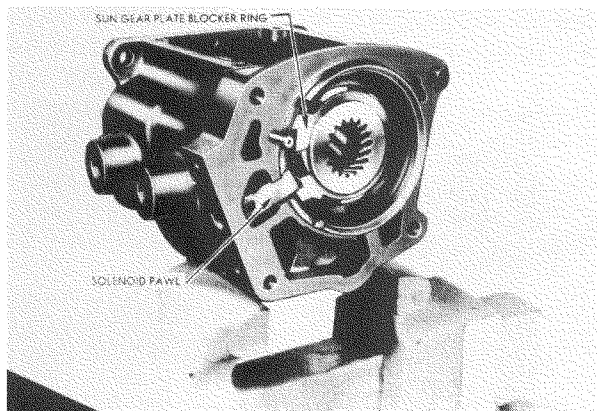

Figure 21.
a. If the overdrive engages with a severe jolt, or noise, probably the blocker ring (Fig 21) has lost its frictional grip upon the hub of the sun gear control plate. This grip should be sufficient to set up a frictional drag of 4-6 lbs. when new, which will fall to 1-1 $\frac{1}{2}$  lbs. when thoroughly broken in. This is measured by holding one lug of the control plate in a soft-jawed vise, with a spring balance hooked into the notch of the nearest blocker lug, and noting the pull required to rotate the blocker **after** it has started moving. While low friction may be corrected by squeezing the blocker ring together for a tighter fit, new parts should be installed if available.
c. If overdrive will apparently engage, but not hold when the power is applied, check to see that the blocker ring is positioned exactly as shown in **Fig. 21**.
d. Insert the pawl with the notched side up. When installing the sun gear control plate assembly and retainer plate, **be sure** that the blocker ring and the pawl are properly positioned (**Fig. 21**). Then install the large snap ring in the adapter plate.